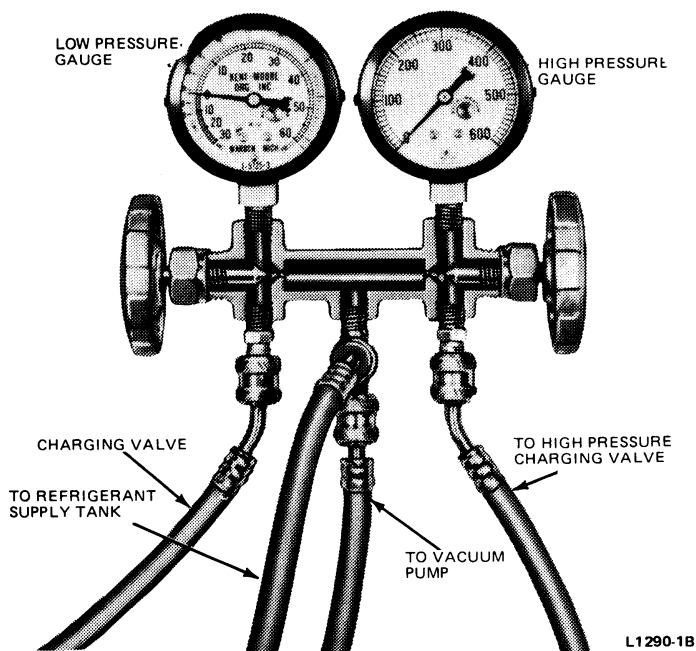

FIG. 7 Manifold Gauge Set
1. Turn both manifold gauge set valves fully clockwise to close the high and low pressure hoses at gauge set refrigerant center outlet hoses (Fig. 7).
Attach the manifold gauge set (Fig. 7). Leave both manifold gauge set valves at the maximum clockwise position. Both gauges should show approximately 60 to 80 pounds pressure at 75 degrees F with the engine not running. If very little or no pressure is indicated, leave the vacuum pump valve closed, open the Refrigerant-12 tank valve, and turn the low pressure (suction) manifold gauge set valve to the counterclockwise position. This opens the system to tank pressure. Check all connections, and the compressor head gasket, oil filler plug, and the shaft seal for leaks, using either the electronic leak detector, Rotunda Model No. 550007 or equivalent (Fig. 9), or a flame-type detector Rotunda model no. 230006 or equivalent (Fig. 8).
Attach the manifold gauge set (Fig. 7). It will not be necessary to attach the Refrigerant-12 tank. Set both manifold gauge valves at the maximum clockwise, or closed, position.